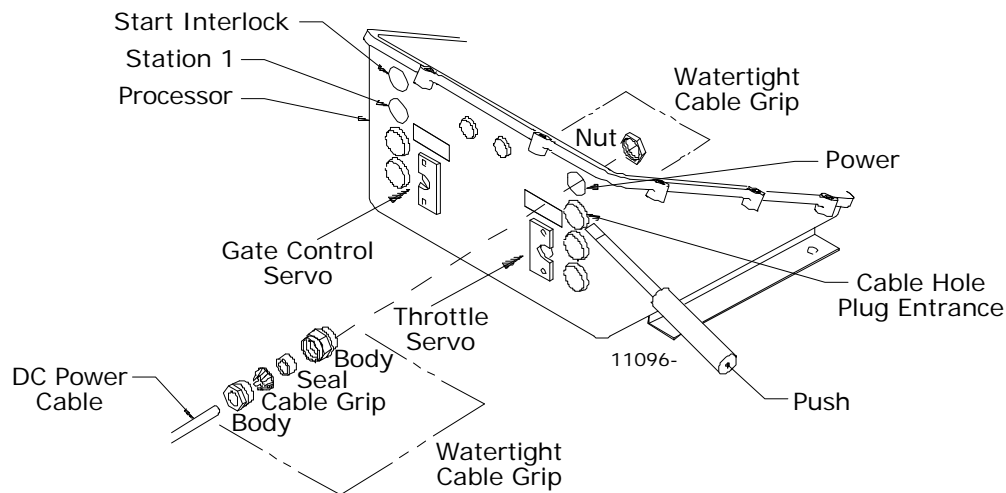

Figure 4 - Plug Removal and Cable Grip Installation
Refer to Figure 4.
- B) Install the power cable grip in the Processor enclosure. (refer to Figure 4)
- A) Install the start interlock grip in the Processor enclosure. (refer to Figure 4)
CAUTION: Ensure that the push-pull cable for the engine enters the Processor through the Throttle Servo opening. Ensure the Water Jet push-pull cable enters the Gate Control Servo opening. Refer to Figure 4.